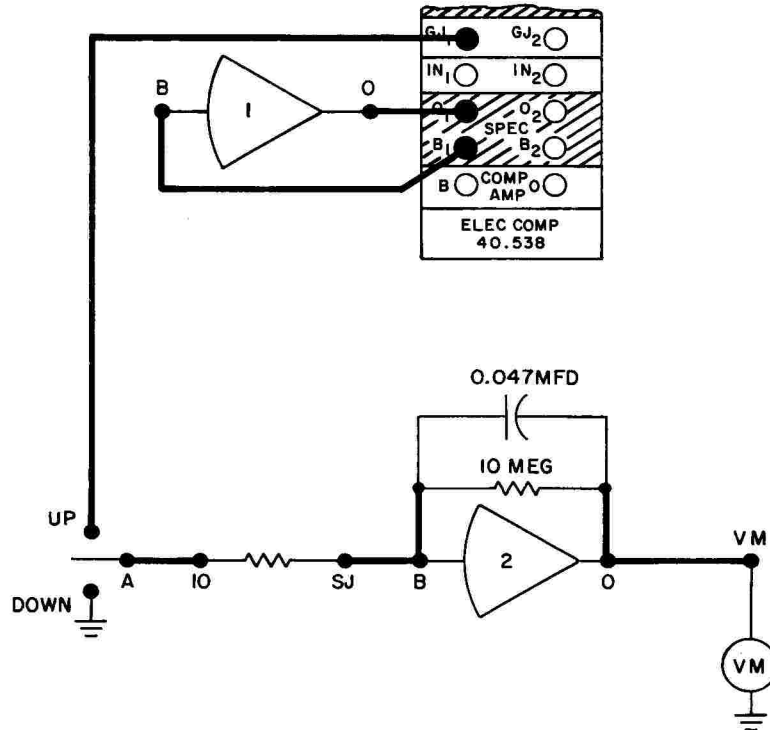

Figure 50. Gate Junction Offset Test Patching
(2) Gate Junction Offset Test. To perform this test, patch the circuit of Figure 50. It is assumed that the power supply and amplifier balancing adjustments of test (1) have been carried out.